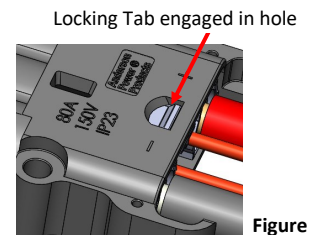

Figure 8
- c. Push from the back of the holder until the holder locking tab snaps into the rectangular/domed opening (Figure 8)